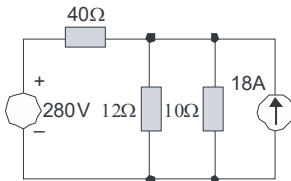

FIG. 1.143
- In the circuit shown in fig.1.143, determine the current supplied by the d.c. generator of 280V.